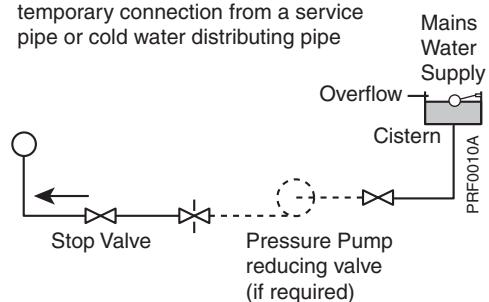

Fig. 7
- ii) where access to a make-up vessel would be difficult by using the mains top up method or a remote automatic pressurisation and make-up unit as shown in Figs. 7.
The system shall be fitted with a filling point at low level which incorporates a stop valve to BS 1010 and a double check valve of an accepted type to be fitted in this order from the system mains, see Fig. 7.